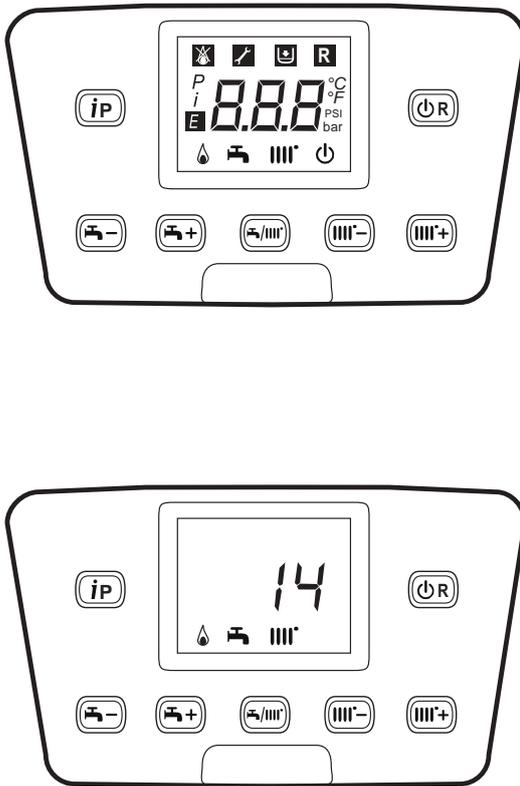

Fig. 70
The parameters are adjusted using the controller (Fig. 70) on the front of the boiler. Only the parameters described in these instructions should be modified, otherwise the warranty for this kit and the appliance could be invalidated.
- This will be noticed by the absence of the °C symbol when **||||-** or **||||+** are pressed, and the adjustment value range will be extended in line with the outdoor sensor curve range 0 to 90 (Fig. 70).